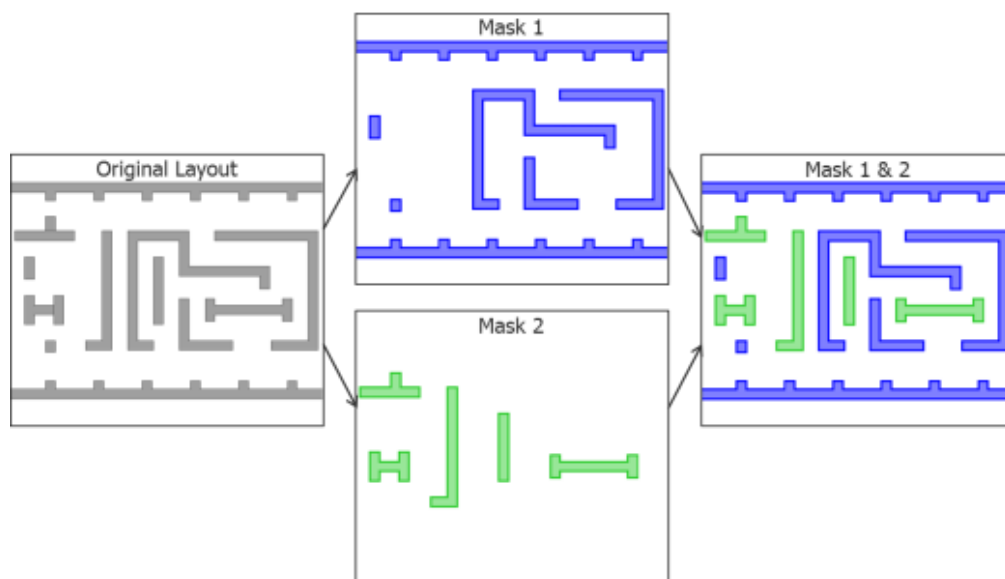

Figure 2: LELE DP masks compared to the original drawn layout.
SADP is similar to the litho-etch-litho-etch (LELE) double patterning (DP) you're all coming to grips with in 20/16/14nm technologies, in that it uses two masks to define the final pattern on the wafer. However, that's the ONLY thing these two technologies have in common. One of the comforting things about LELE DP is that the two masks are each essentially a copy of part of the original drawn layout. When you look at them together, they look identical to the original layout (Figure 2). If someone asked you what you "saw" in the two mask patterns, you could easily and intuitively describe the original layout.